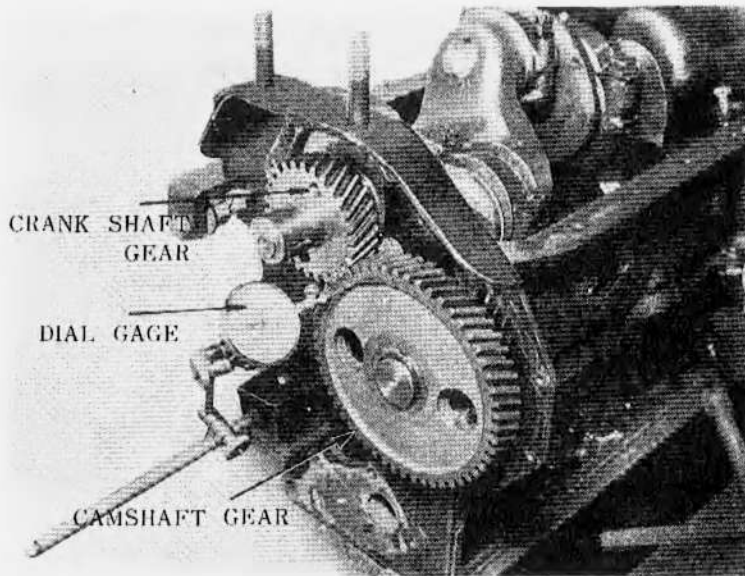
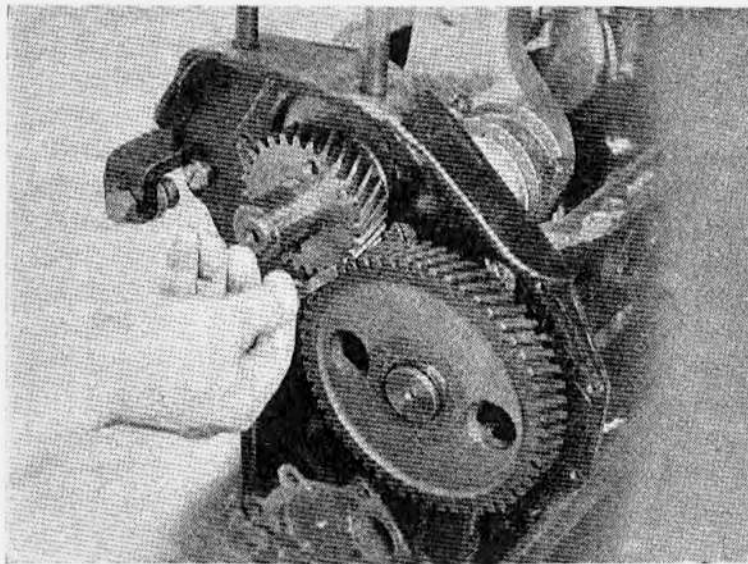

Figure 80 – Checking Runout of Timing Gears
Figure 81 – Checking Timing Gear Backlash
(5) As the gear is being pressed onto the shaft, check space between thrust plate and shoulder of shaft. The plate must turn freely, but not have over 0.11 mm clearance.
(6) Install camshaft assembly being careful not to damage bearings or cams.
(7) Turn crankshaft and camshaft so that the Valve Timing Marks on the gear teeth will line up and push camshaft into position. Install camshaft thrust plate bolts to block and tighten them securely.
(8) Check camshaft and crankshaft gear runout with a dial gage (Fig. 80). The camshaft gear runout should not exceed 0.10 mm and the crankshaft gear runout should not exceed 0.08 mm.
(9) If gear runout is excessive, the gear will have to be removed and any burrs cleaned from the shaft or the gear replaced.
(10) Check the backlash between the gear teeth with a narrow feeler gage (Fig. 81). The backlash should not be less than 0.08 mm nor more than 0.20 mm.